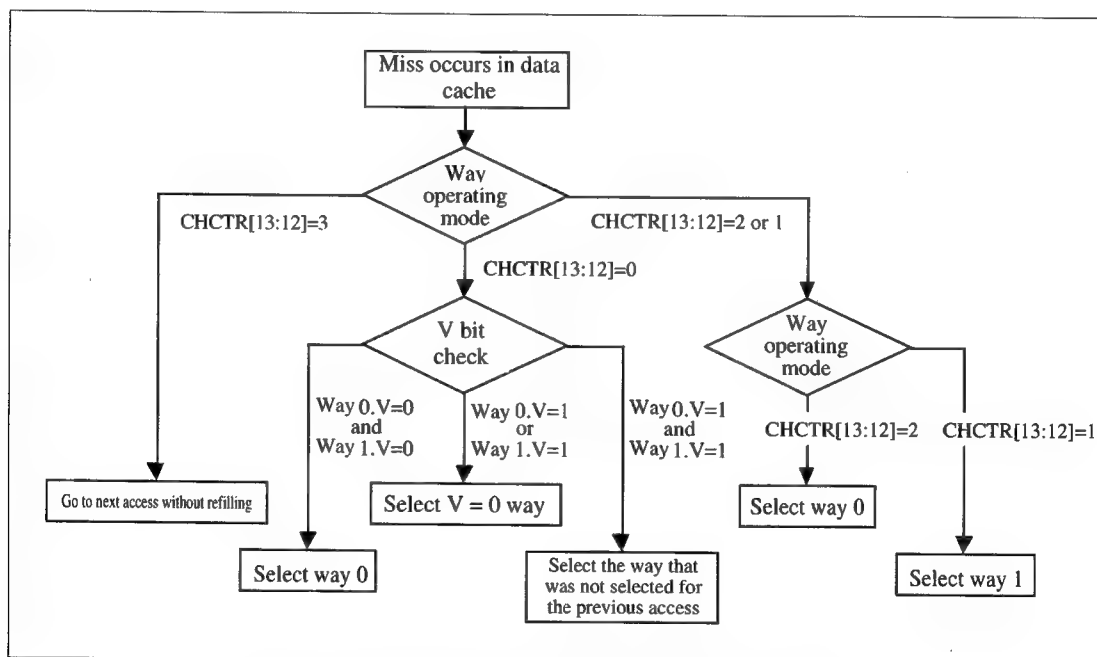

Fig. 4-5-5 Data Cache Refill Target Way Selection Flow
First, the refill target way is selected according to the value of the valid bit (V) in the tag array entry that was accessed, the way operation mode that is set in the cache control register (CHCTR), and the information on the way that was selected the last time that data was accessed. Fig. 4-5-5 shows the flow chart how the data cache refill target way is selected.
First, the refill target way is selected according to the value of the valid bit (V) in the tag array entry that was accessed, the way operation mode that is set in the cache control register (CHCTR), and the information on the way that was selected the last time that data was accessed. The flow by which the refill target way is selected is the same as when a data cache read miss occurs. (Refer to Fig. 4-5-5.)